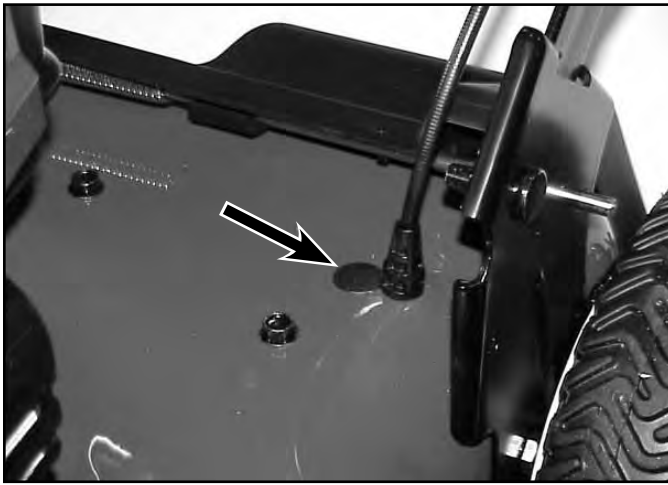

Fig 062
3. Remove the plug from the hole next to where the self-propel cable goes through the chassis (Fig. 062).